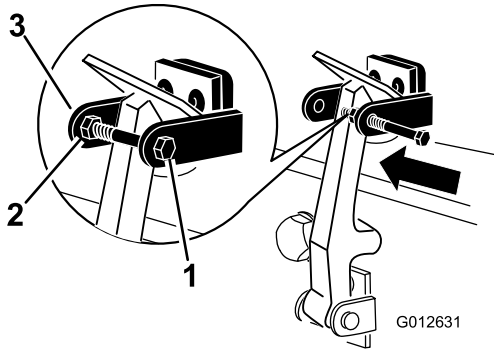

Figure 6
9. Assemble the bolt through the other arm of CE-lock bracket and secure the bolt with the locknut and washer (Figure 6).